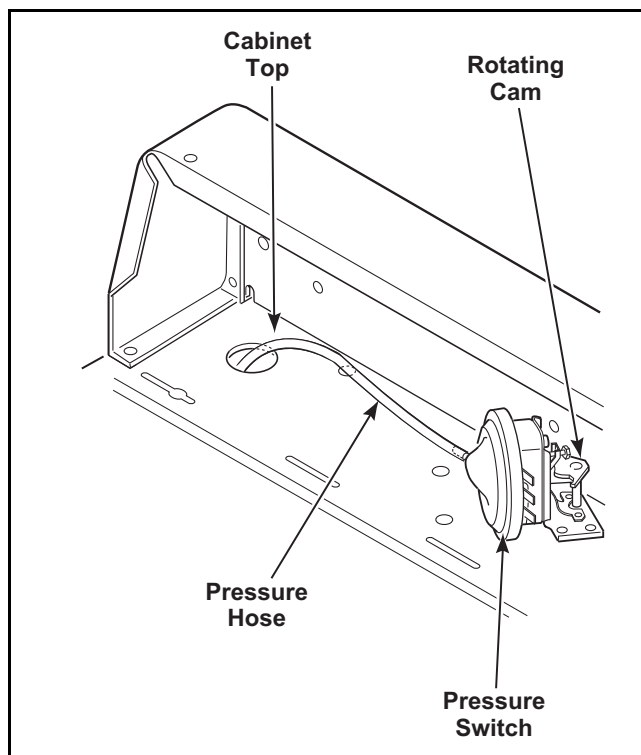

Figure 3
Refer to *Figure 3*.
- Rotate the cam on the pressure switch **clockwise to lower** the water fill height, or **counterclockwise to raise** the height. Refer to *Figure 3*.